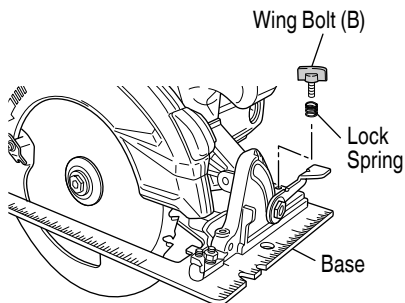

Fig. 10
3. Regulating the guide (Rip fence) (Fig. 10, 11) ..... Optional Accessory